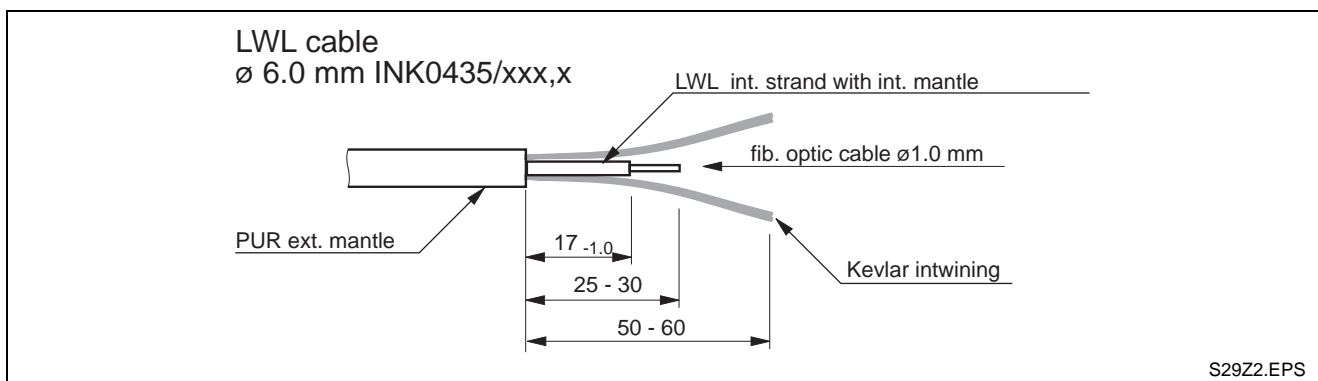

Fig. 7-6: LWL stripping information
- ⇒ Strip PUR ext. mantle of cable with stripping knife per Fig. 7-6.
- ⇒ Strip inside mantle with stripper 2.2 mm (Fig. 7-6).